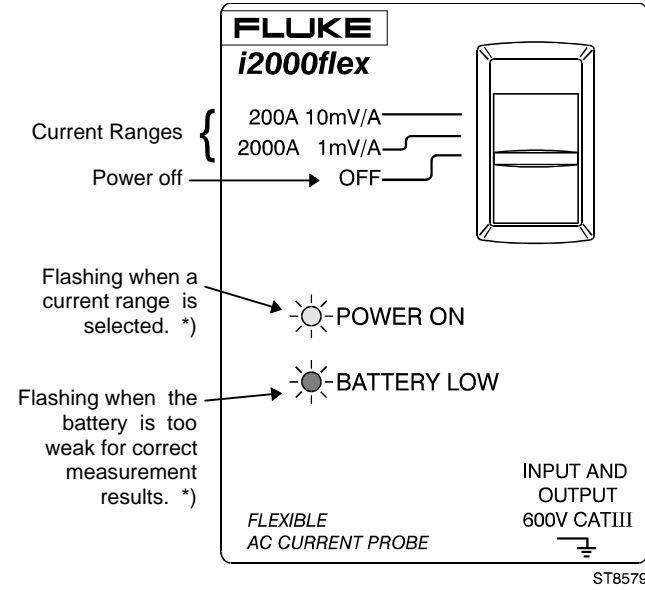

Figure 1. Text on the i2000flex unit
- "BATTERY LOW" indicator not flashing (red LED) (see Figure 1)
Indicators (see Figure 1)